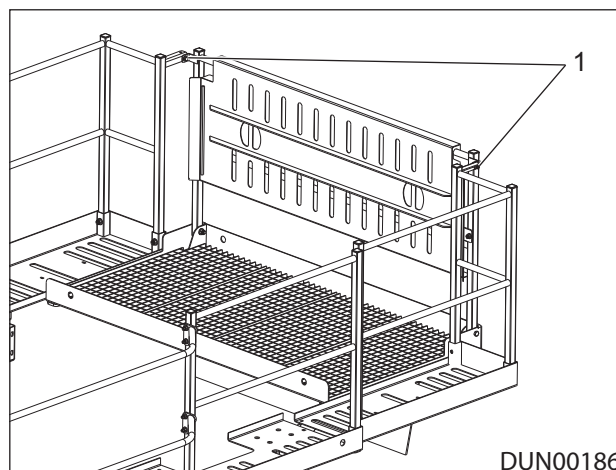

Figure 6.13 - Rear Handrail in the Working Position
9. Rotate the rear hand rail down up into the working position, Ref: Figure 6.13.
10. Insert the bolts and brackets (item 1) on either side of the rear handrail to secure in the working position, Ref: Figure 6.13.